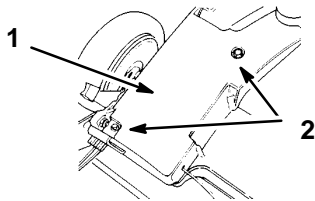

Figure 14
1. With the engine turned off, remove the two bolts securing the belt cover (Fig. 14) and remove the cover.